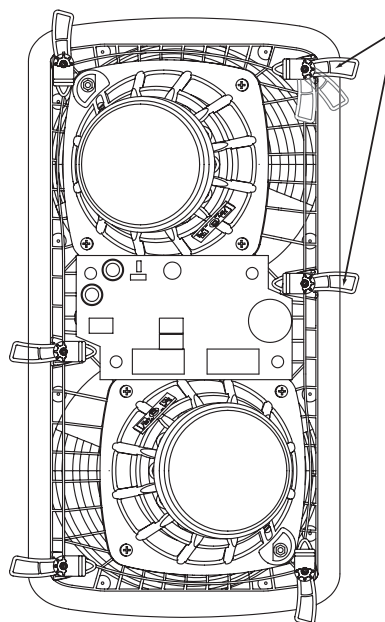

Figure 7
10. While holding in place, tighten the six lock arm screws with a screwdriver (Figure 7). This will rotate the lock arms and secure the speaker to the wall/ceiling. **DO NOT OVERTIGHTEN** the lock arm screws as this could damage the drywall. If you are using a power screwdriver or drill, set the torque to a value of no more than 7 in.-lb (8dN-m).